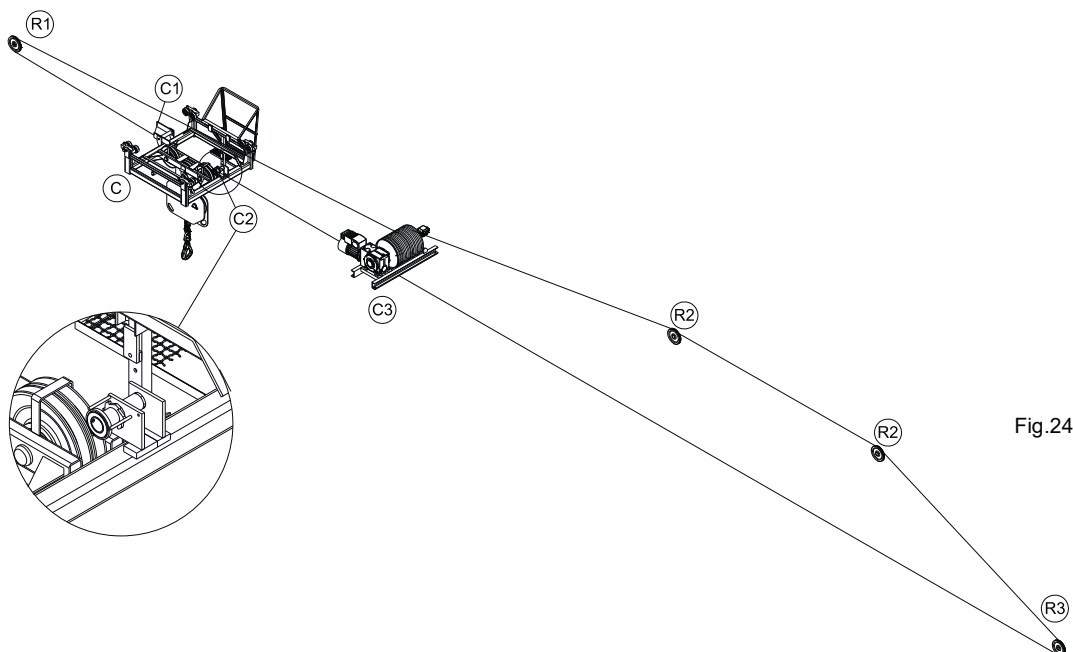

Fig.24
2.4.2. Depois de todos estes elementos unidos entre si, fixar uma ponta do cabo do carrinho no tambor C3, passar a outra ponta pelas roldanas de guiagem R2 e R3 colocadas na lança, indo fixá-la no esticador C2 colocado no carrinho C. Esticar o cabo. (ver Fig.24). O outro cabo do carrinho encontra-se montado de fábrica.
2.4.2. After all these elements have been connected to each other, fix a cable end of the head in Drum C3 and pass the other cable end through the guiding sheaves R2 and R3 on the jib, and fixing it to the stretcher C2 located on crab C. Stretch the cable. (See Fig. 24). The other crab cable is assembled in the factory.